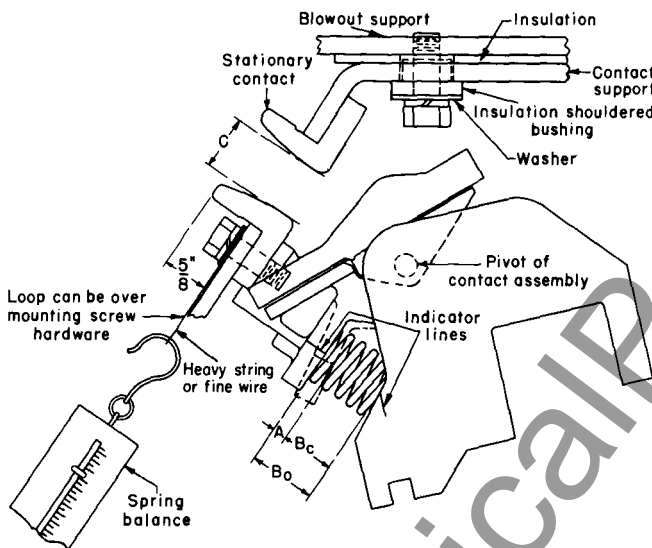

Fig. 6. View of contacts in open position with letters designating important contact dimensions.
1. Use Fig. 6 as a guide. With the contacts in the completely open position, measure the distance, B_o , between the two spring supports. Take measurements at the indicator lines moulded into the support and bracket.
The contact gap (" C " in Fig. 6) is set correctly at the factory, and it is not necessary to recheck this gap unless some major work is done on the contactor. The gap is measured as the shortest distance between the movable and stationary contacts. The force required to close the armature through the last part of its stroke will be high, because close to its sealed position it operates against a kick-out spring normally used to assure quick release of the magnet.
(Refer to Fig. 6)
When contact force is checked, a spring balance may be used in the manner indicated in Fig. 6. Note the positioning of the loop of string (or fine wire). Also note the line of pull in relation to the contact pivot. The spring balance reading should be corrected for zero reading when held in the same position. If the shunt is removed, an equivalent spacer should be used to locate the wire from the balance in the correct position. If the line of pull is slightly off, the reading will be increased. Move the balance to find the lowest reading. Use Table IV for reference figures.